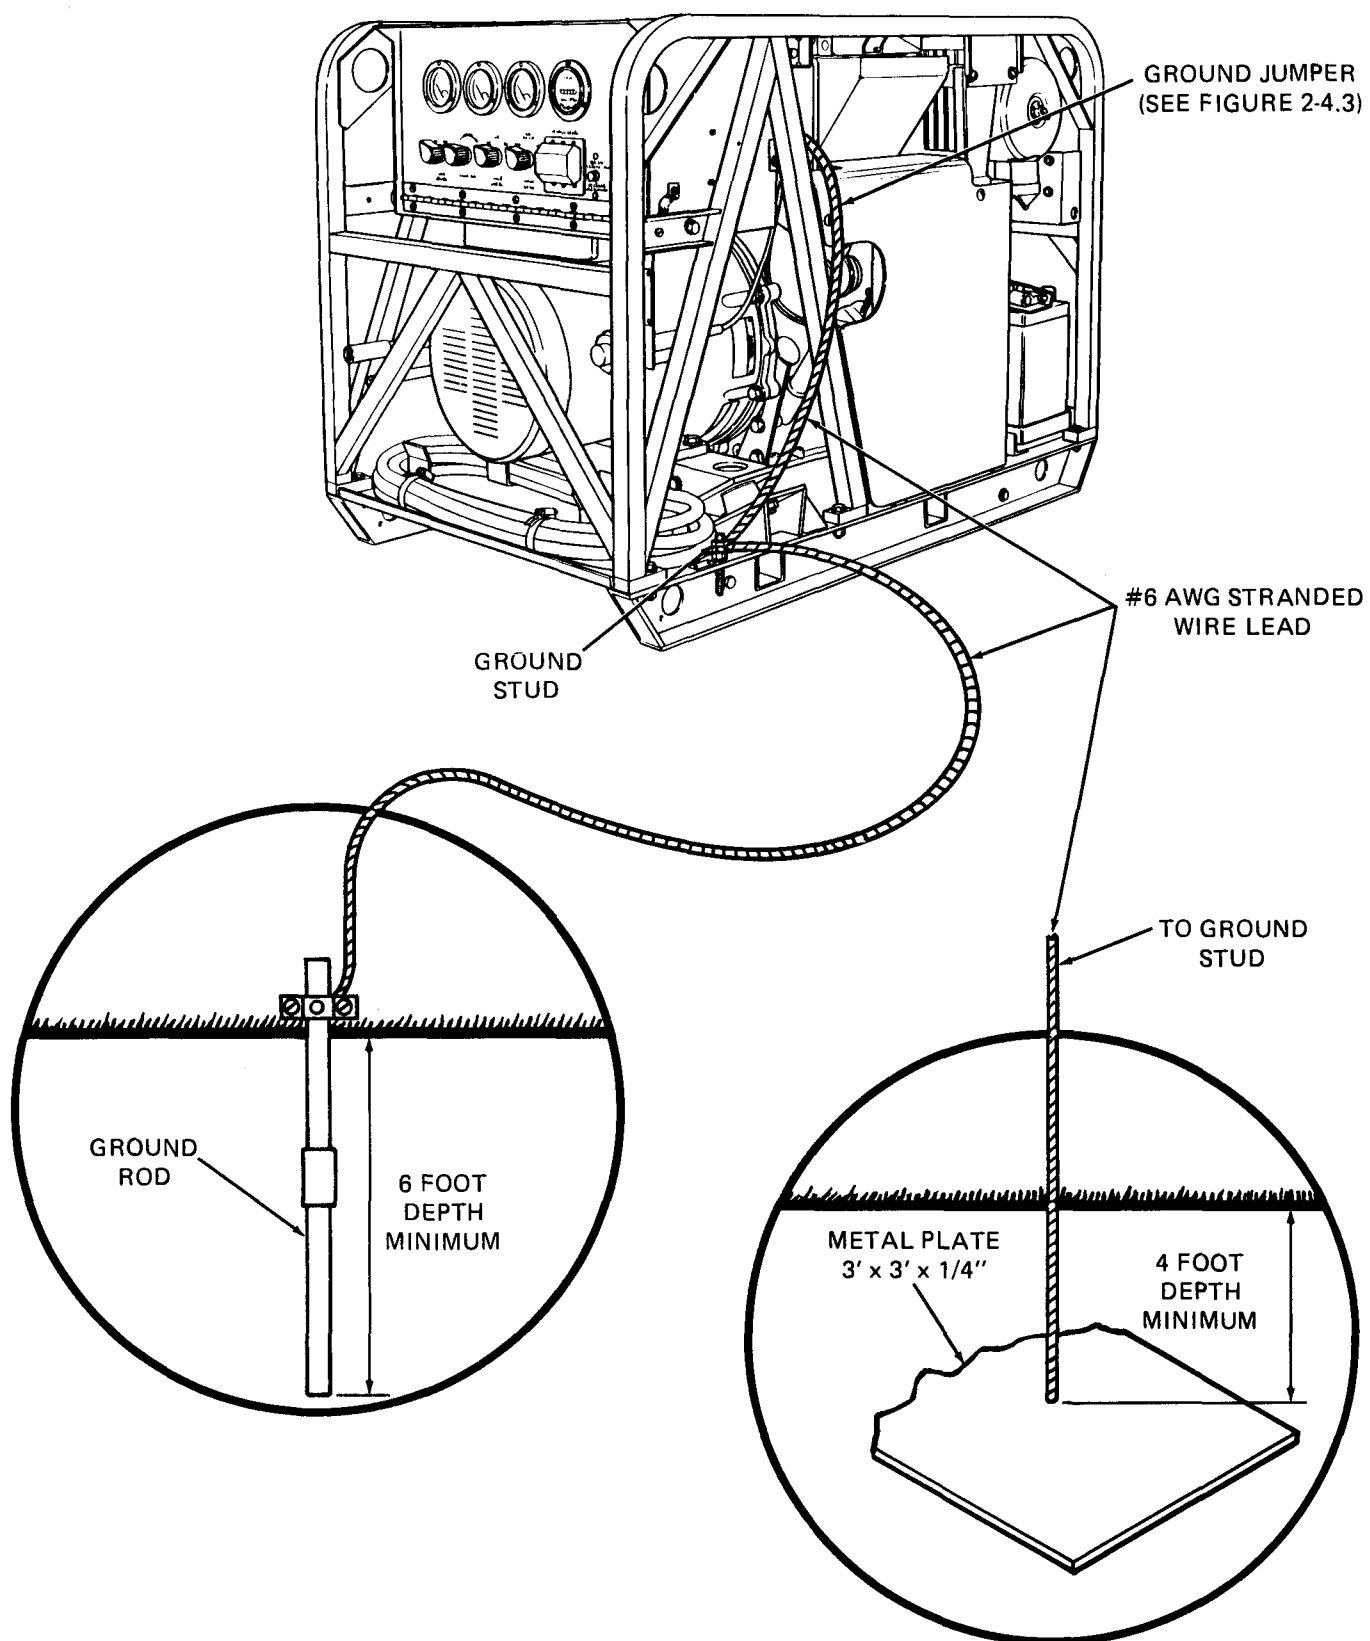

Figure 2-4.1. Grounding the Generator Set (60 Hz and 400 Hz).
b. Set Grounding Instructions. When grounding the 60 Hz and 400 Hz sets, grounding connections MUST be made to both the output terminal and frame terminal (see Figure 2-4.1). When grounding the 28 VDC set, only the frame (ground terminal stud) need be grounded (see Figure 2-4.2).
- (1) For 120 volt single phase, 120 volt three phase, or 240 volt single phase modes, connect a #6 AWG stranded conductor between the output terminal stud L-2 and frame (ground terminal stud) (see Figures 2-4.1 and 2-4.3).
- (2) For a 120/208 volt three phase mode, connect a #6 AWG stranded conductor between output terminal stud LO and frame (ground terminal stud) (see Figures 2-4.1 and 2-4.3).